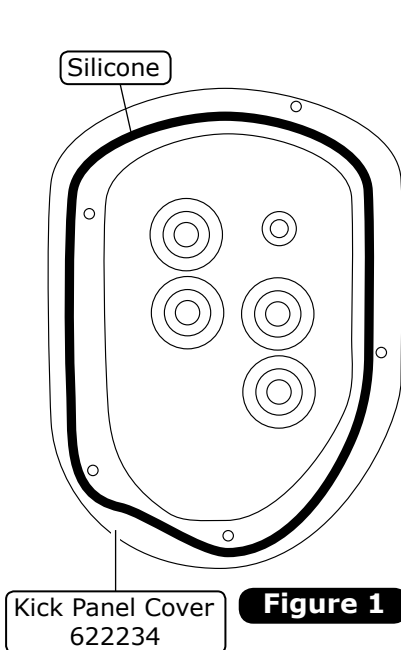

Figure 1
1. Apply a bead of silicone around the mating surface of the kick panel cover (See Figure 1, below).
3. Install the kick panel, routing the hoses and wiring through the opening. Secure the panel using (4) #8 x 1 1/4" screws with washers (See Photo 1, below).
2. Install the straight fitting on the #6 drier/evaporator A/C hose onto the expansion valve on the evaporator unit using a properly lubricated #6 O-ring (See Figure 1, Page 16, and Photo 2, below).
5. Remove the support board (if used), and roll the evaporator into its mounting position. Insert the (2) 1/4-20 x 1 1/2" studs into the upper OEM mounting holes on the firewall (See Photo 5, below).
6. Install the 45° fitting on the #10 compressor/evaporator A/C hose onto the #10 fitting on the evaporator using a properly lubricated #10 O-ring (See Figure 1, Page 16, and Photo 6, below). **NOTE: After installing the #10 compressor/evaporator A/C hose, wrap all exposed metal with the supplied press tape (See Photo 7, below).**
7. Install (2) #8 U-nuts onto the evaporator dash bracket (See Photo 8, below). Position the evaporator dash bracket under the glove box door mounting holes, and install it onto the evaporator unit using (2) 1/4-20 x 1/2" bolts (supplied on the evaporator unit) (See Photos 9 & 10, below).